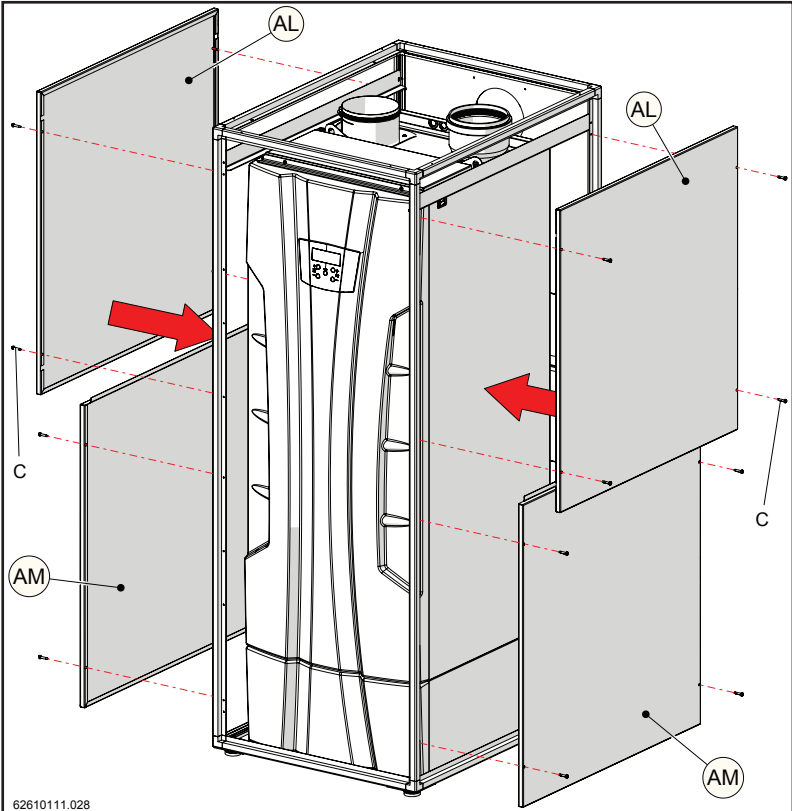

Figure 12-23
- 11.- Position the side coverings (AM) (before) and (AL) (after), and secure them to the structure with screws "C" (figure 12-23).